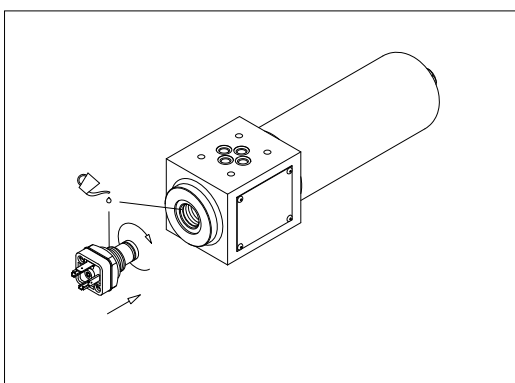

fig. 8
- (Fig. 8) Lubricate with the operating fluid the thread and the O-ring of the indicator body, then screw the indicator body in referring to the tightening torque table in paragraph 3